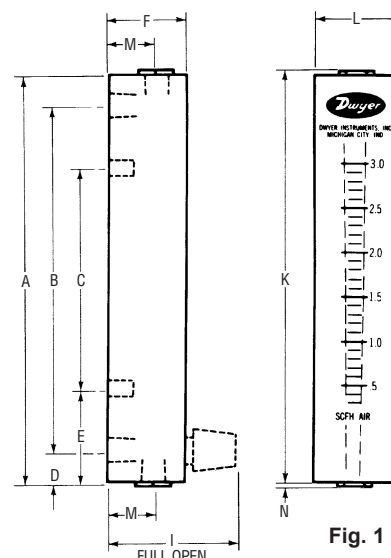

Fig. 1
The Visi-Float® Series Flowmeters are furnished in two models (see Figure 1) each available in a broad choice of flow ranges with direct reading scales for air, gas or water. Installation, operation and maintenance are very simple and only a few common sense precautions must be observed to assure long, trouble-free service.
**Surface Mounting:** Drill appropriate holes in panel using the dimensions shown in Figure 1. Hold the flowmeter in position in front of the panel and install the mounting screws through the panel from the rear. Mounting screws must not be longer than the panel thickness plus 1/4", or the screw will hit the plastic and may damage the meter. The screws will require additional force during the initial installation, since the insert boots are of a collapsed thread type and must be expanded into the plastic for the knurled surface to take hold. Insert boots will not have the proper 10-32 threads until the first screw has been inserted to expand
**Surface Mounting on Piping Only:** An alternate method of surface mounting is by omitting the mounting screws and supporting the Visi-Float® Flowmeter on the connecting piping only. For this method extra long or straight pipe threads should be used so that nuts may be run onto the pipe and later tightened against the back of the panel to retain the unit in proper position. Use the appropriate hole layout information from Figure 1, but omit the small holes.